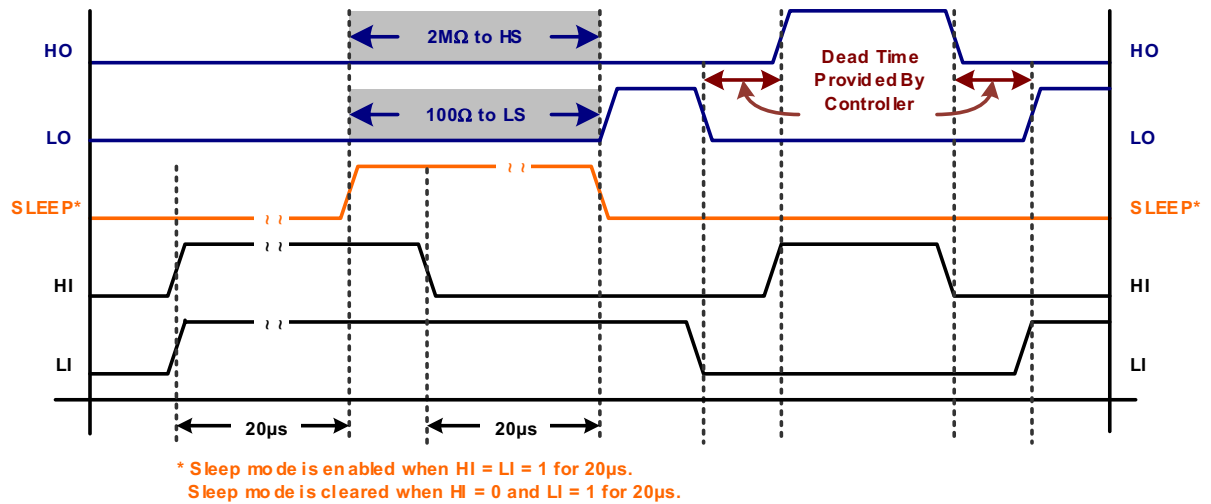

Figure 7. Sleep Mode Enabled or Cleared by HI and LI Inputs
14. When HI and LI are on simultaneously, HO and LO are never on simultaneously. This feature is intended to initiate sleep. This feature cannot be used to prevent shoot-through for normal alternating switching between LI and HI. Dead time must be provided when  $HI = 0 \rightarrow LI = 1$ , or  $LI = 0 \rightarrow HI = 1$ . See Timing Diagrams (Figure 7 on page 13).